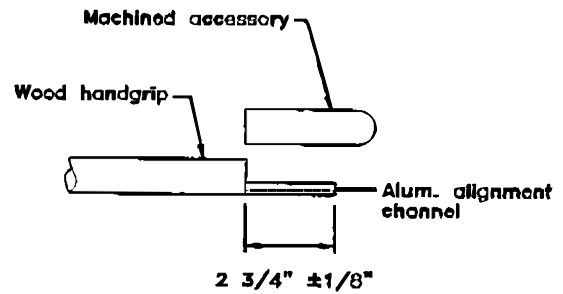

Fig 3
- Step 3:** The aluminum alignment channel must extend past the handgrip at all accessory and splice locations. See **fig. 3** for adjustments to aluminum and handgrip length at wall returns and inside/outside corners.